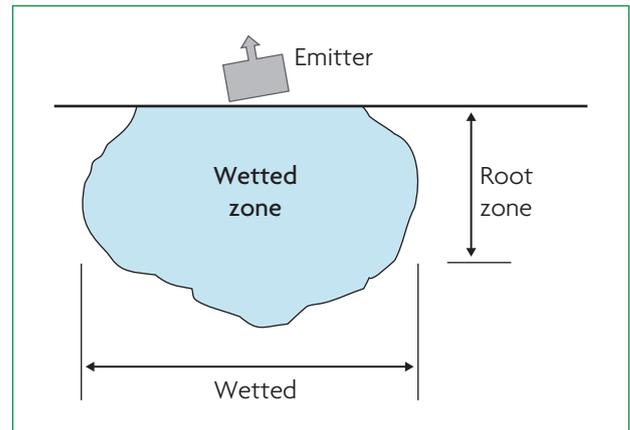

Figure 3.1. Wetting pattern under micro-irrigation outlet.
2. Mark location of pressure regulators, flush valves and positions where tests are to be conducted (see example Figure 3.1)
The behaviour of water in the drip wetted zone is influenced by conditions existing in the soil at the time, and by previous irrigation practices. Examine the wetted zone under a number of representative emitters before the system is started, and record dimensions and approximate moisture content (see Figure 3.1).
Key dimensions include the surface wetted diameter, the wetted diameter at the widest point, the wetted diameter at about 30cm and the depth in relation to plant root zone (Figure 3.1).